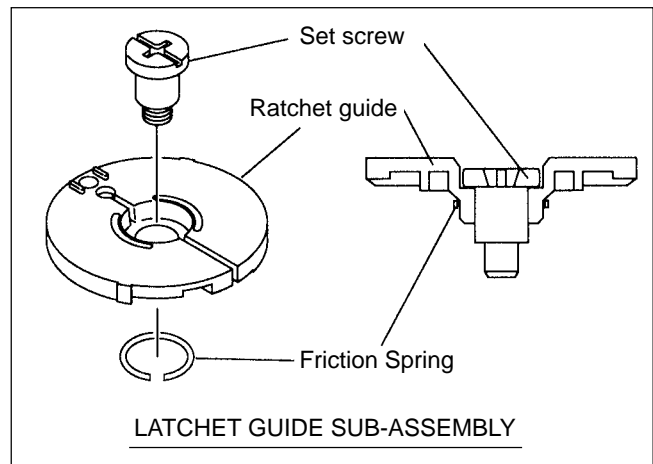
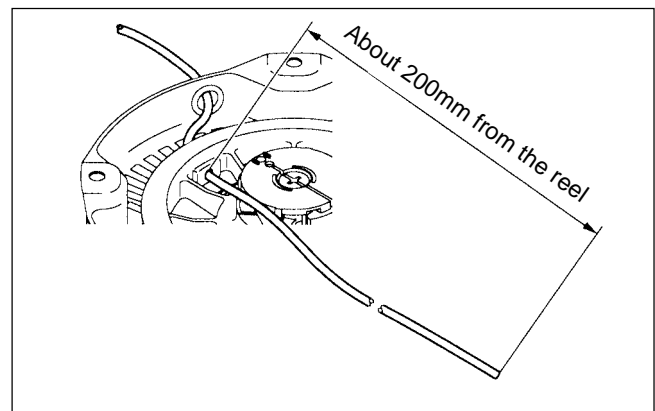

Fig. 10-5
Fig. 10-6
-2: Holding the latchet position, mount the latchet-guide sub-assembly. (Fig.10-5)
(3) Tightening the set-screw.
(4) Storing the spring-power.
-2: Hold the reel at the position where the rope hole of the reel and the rope guide make a straight line. (Fig.10-6)
(5) Setting the rope. (2 people required)
-1: Pass the rope end through the rope guide and the rope hole of the reel and pull the end about 20cm out of the reel. (Fig.10-6)